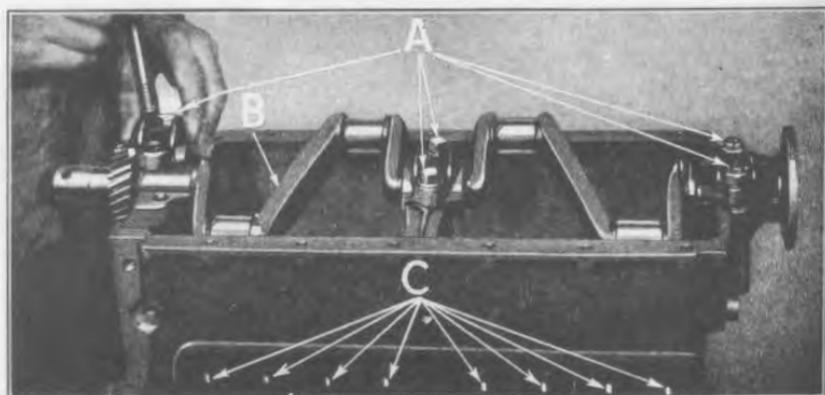

Fig. 140
- 210 Remove main bearing caps and shims by running off the six crankshaft bearing bolts and nuts and withdrawing bolts. (See "A" Fig. 140).